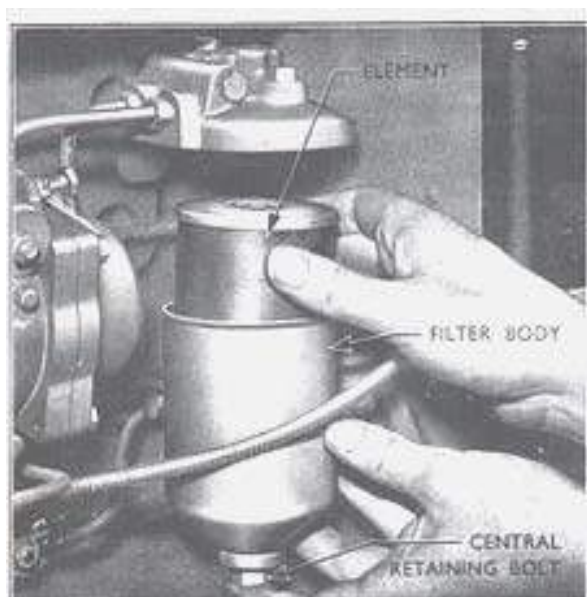

Fig. 2
1. Unscrew the centre bolt from the filter, remove the filter body and discard the element (see Fig. 2). Using a brush and clean fuel oil, thoroughly clean the interior of the filter body. On no account use rag for this operation.